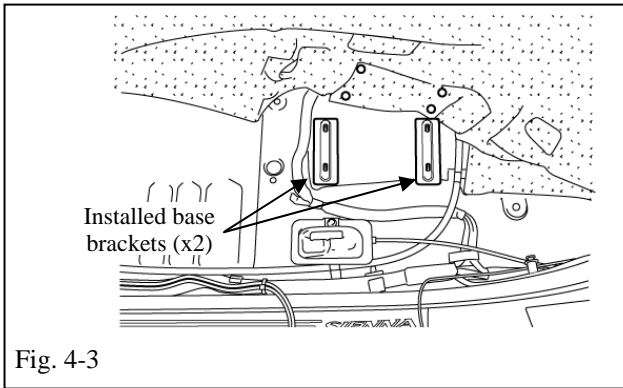

Fig. 4-3
- (e) Insert base bracket studs through the cut holes, remove the release paper from the butyl cushions; then press the carpet downward to install the base brackets. (Fig. 4-3)